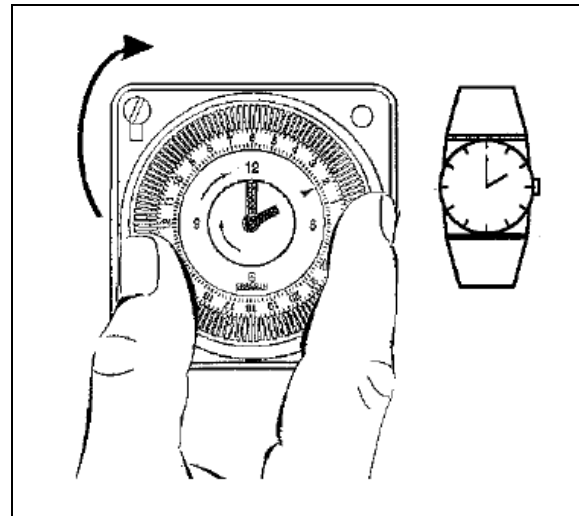

Fig. 12
- Set the hours by turning the external ring clockwise (fig.12);